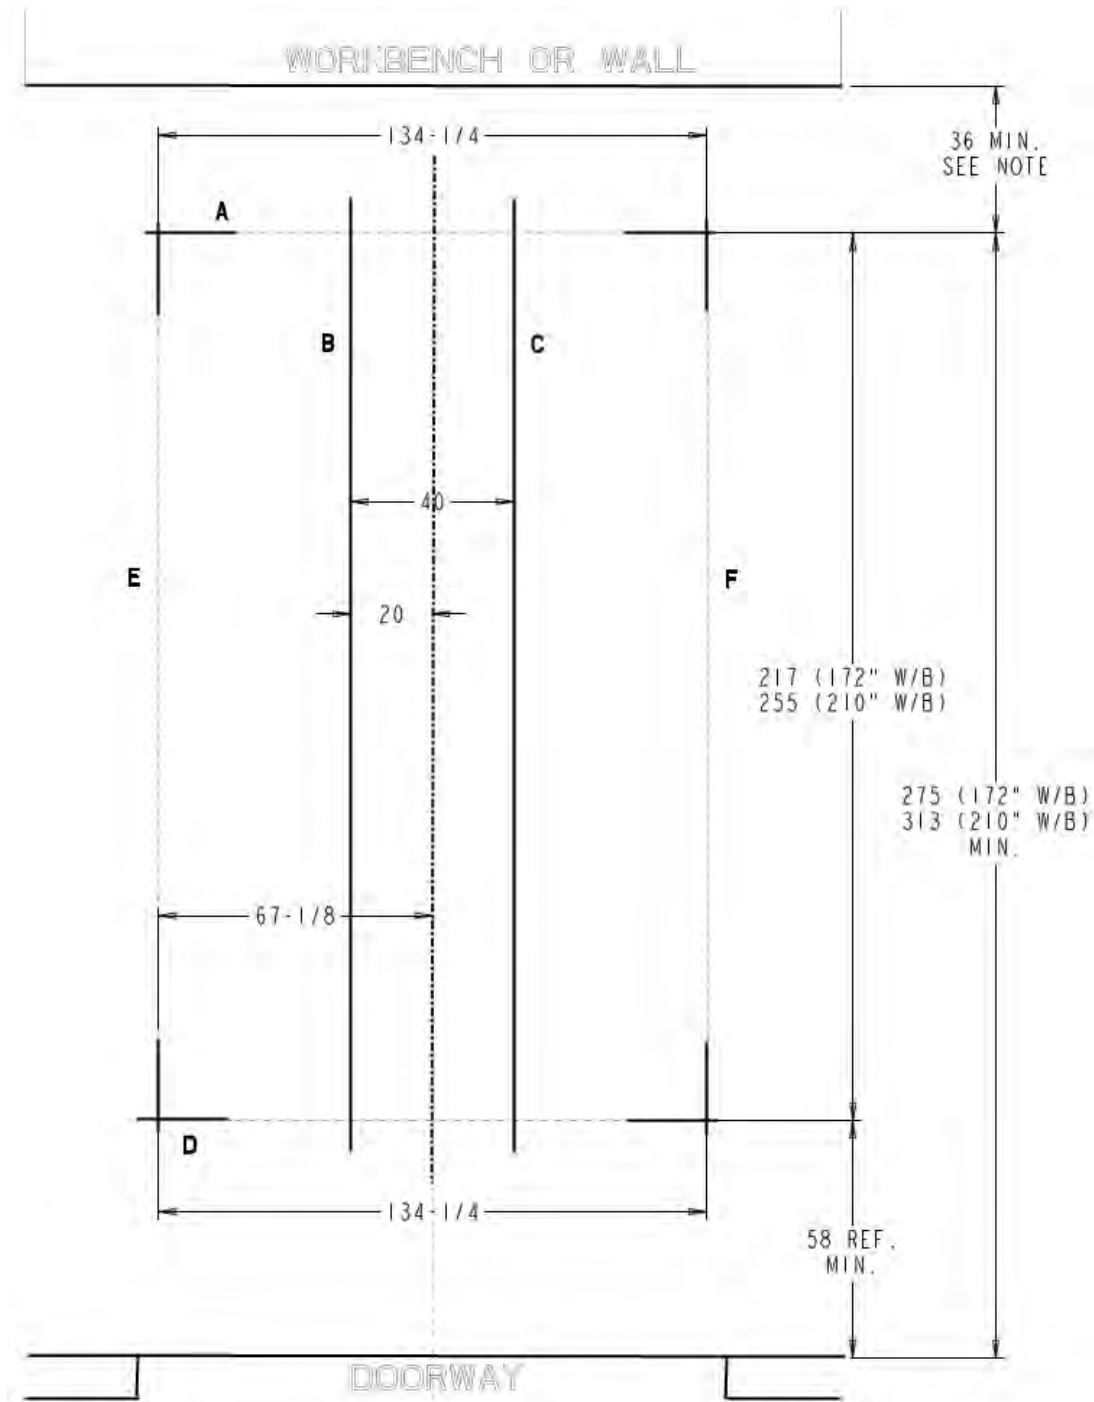

Figure 3. Chalk line layout
1. **Refer to Figure 3.** Make a chalk line parallel to the doorway at least 275" (172" W/B) or 313" (210" W/B) in from the doorway. This will be the location for the front edge of the front tower baseplates, call this line "A".